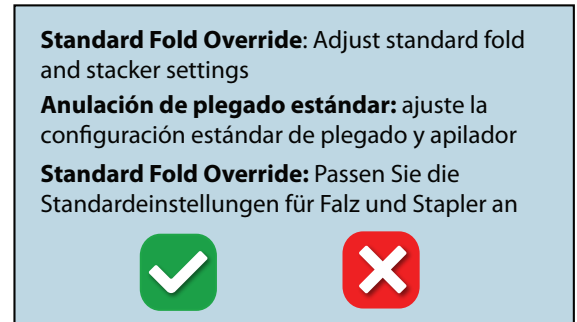

Fig. 39
2. "Standard folds will be modified from factory settings" warning will be displayed (Fig. 39). Press the green box with the check to continue or the red box with the X to exit and return to the operator screen.